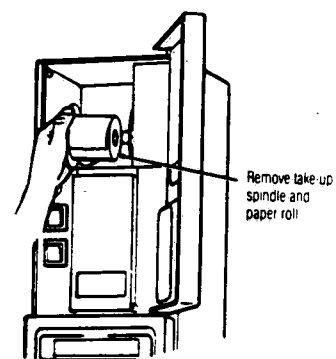

FIGURE 4-4 - Take-Up Spindle Removal
4. Remove paper roll from take-up spindle and set empty take-up spindle aside (Figure 4-4).